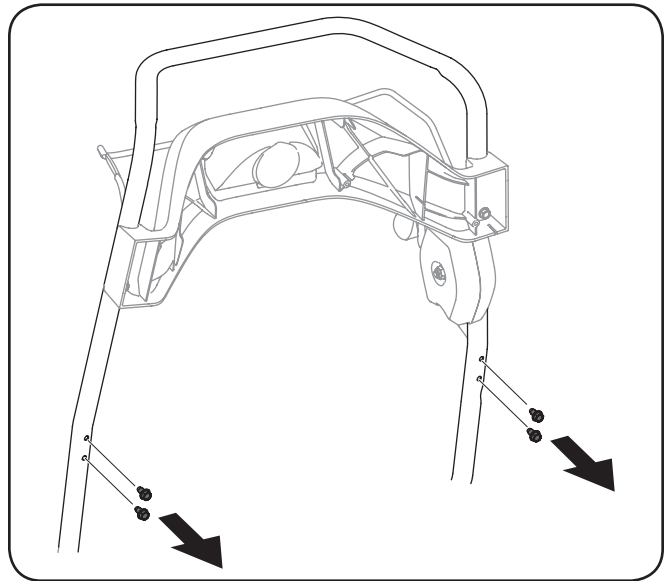

Figure 3-6
1. Remove the four hex washer screws from the back of the handle (two on each side). See Fig. 3-6.